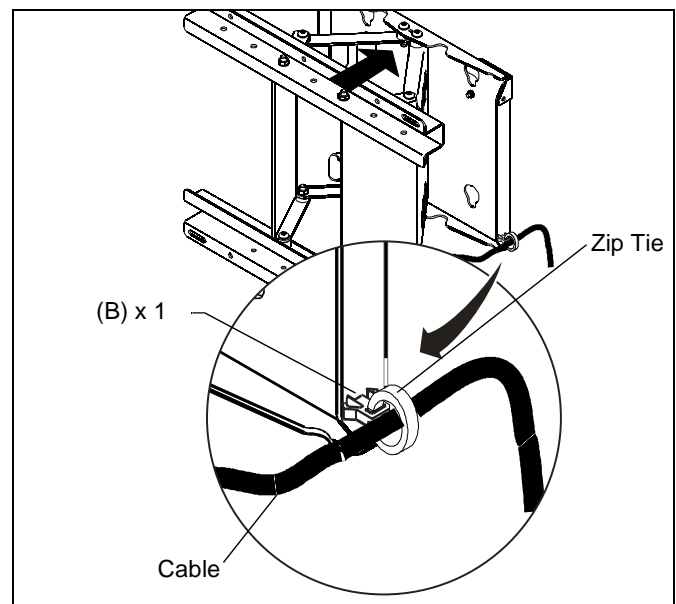

Figure 10
1. Zip tie cable to cable clip (B). (See Figure 10)